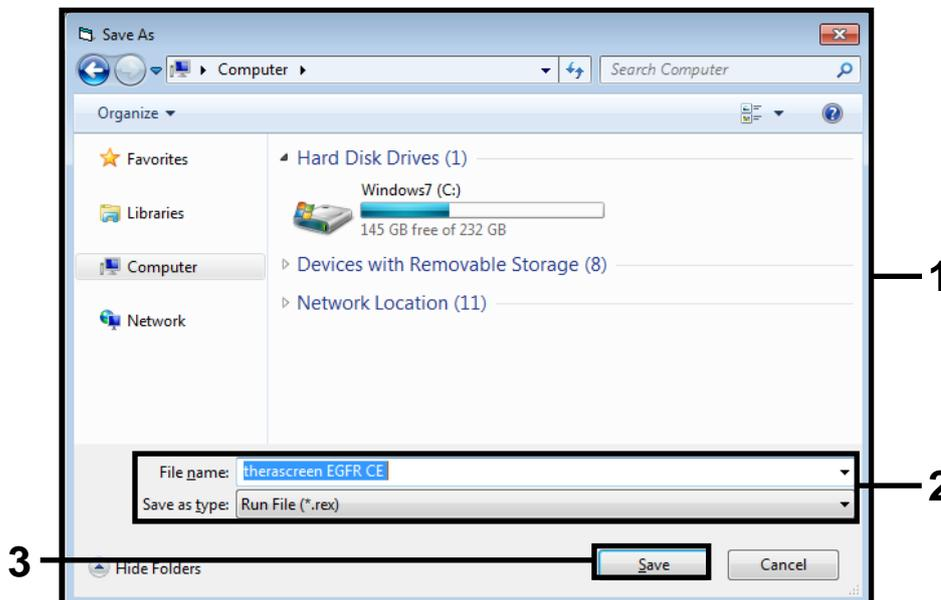

Figure 15. “Save As” window (1) (2 = “File Name” and “Save as type” fields; 3 = “Save” button).
17. The “Save As” window opens. Chose an appropriate file name and save the PCR run as a *.rex run file to the selected location. Click “Save” (Figure 15).